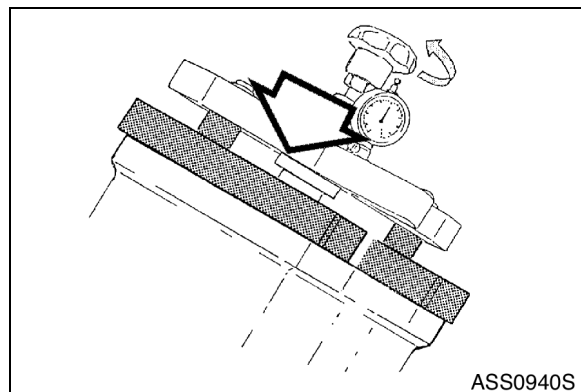

Figure 100
B. Size 140 - 200 (Figure 100)